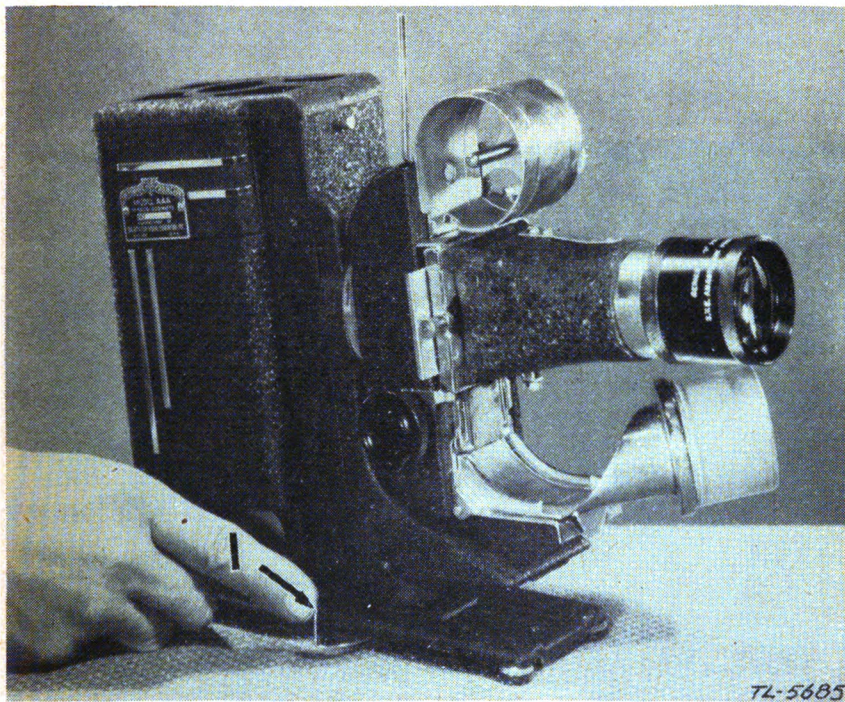

FIGURE 73.—Screening the image with tilting lever.
*c.* Raise or lower framed picture on screen by moving tilting lever *I* (fig. 73) at base of machine. Never tilt projector more than lever will allow, as lamp filament will break if operated at too great an angle. Set projector on a higher base if more elevation is desired.